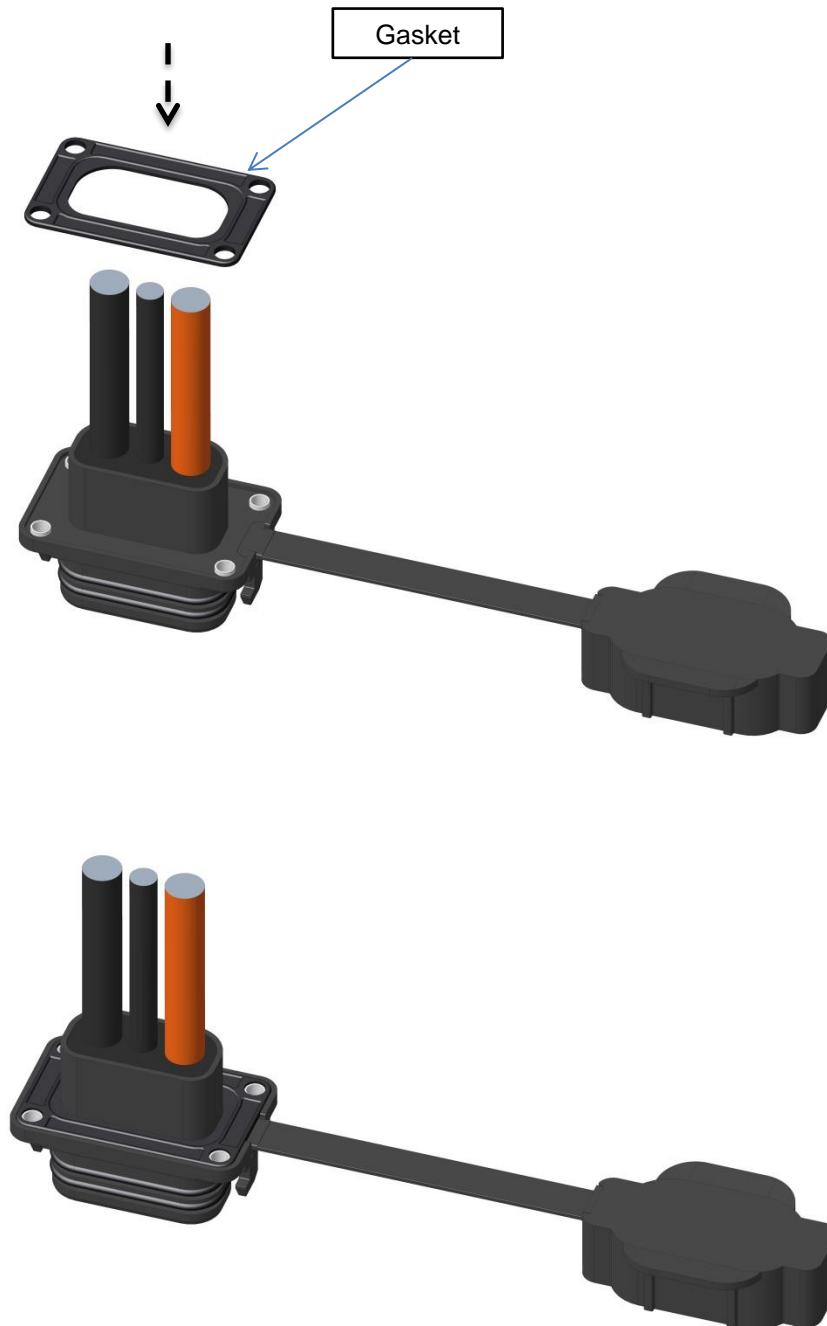

Figure 6
5.1.2 Place the gasket by ensuring correct orientation from the rear side (Fig. 6)